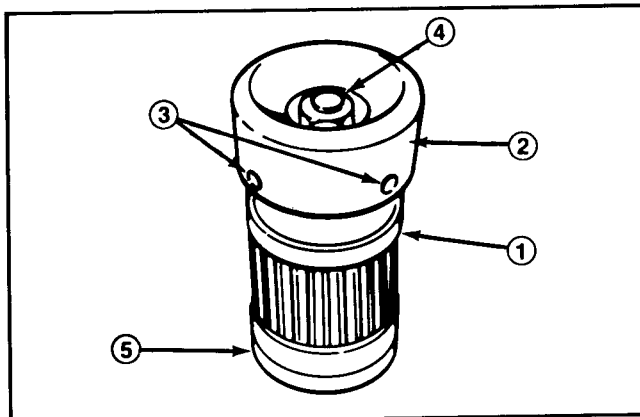

Figure 48
1. Loosen two (2) set screws and remove clutch knob from new clutch assembly (Fig. 48). Use a block of wood to keep the reel from rotating and remove nut and washer from clutch adapter shaft (Fig. 48)